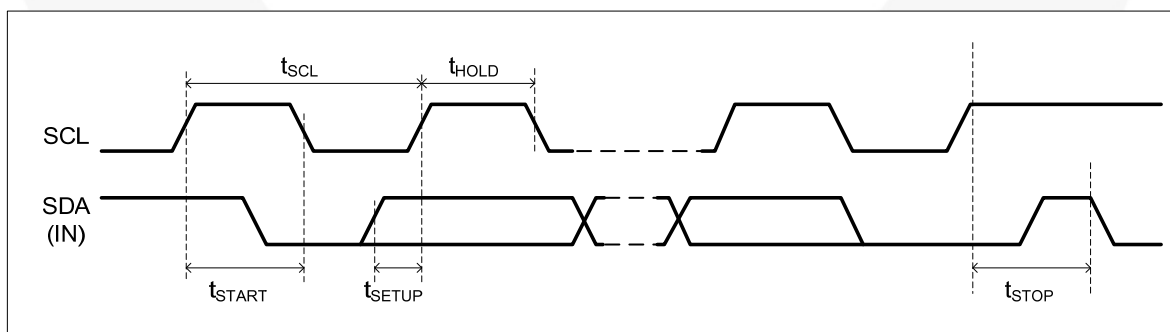

Figure 7. I²C interface Timing Diagram
10. I²C timing diagram as Figure 7.